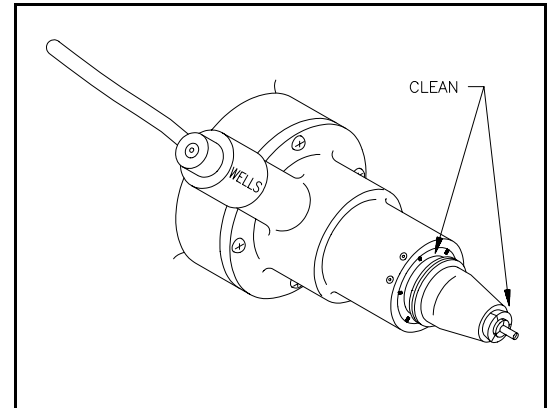

Figure 3
- 2.2 Clean around the collet, collet body and threads with a small brush or rag. See Figure 3.